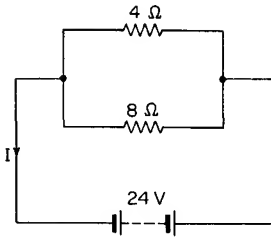

Fig. 2.103
29. In Fig. 2.103 find the current I .
30. Find the current flowing in each of the two resistors of Fig. 2.103.
31. What is the voltage-drop across each of the resistors in Fig. 2.103.